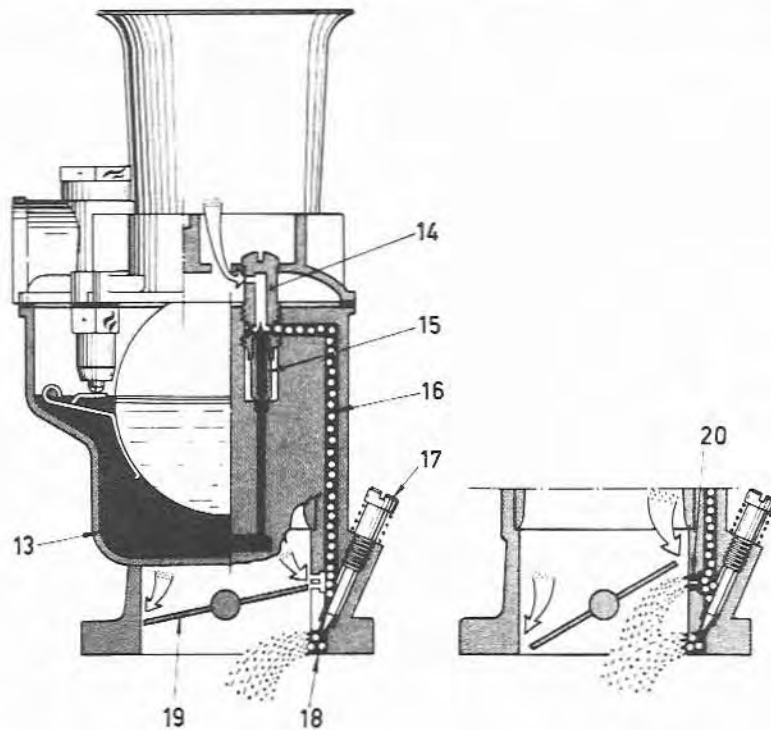

Fig. 8.3 Idling and progression phase (46 IDA and 48 IDA) (Sec 3)
Refer to Fig. 8.3 and note that when the engine is idling with the throttle valves (19) closed, fuel is drawn from the float chamber (13) to the idling jets (15) where it becomes emulsified with air entering through the calibrated orifices in the idling jet holders (14). The mixture then travels through the channel (16), past the adjustable mixture screws (17), through the idling feed holes (18) and into the carburettor throats at the engine side of the throttle valves. The idling mixture screws (17) have tapered ends and can therefore be adjusted to admit more or less mixture as necessary.